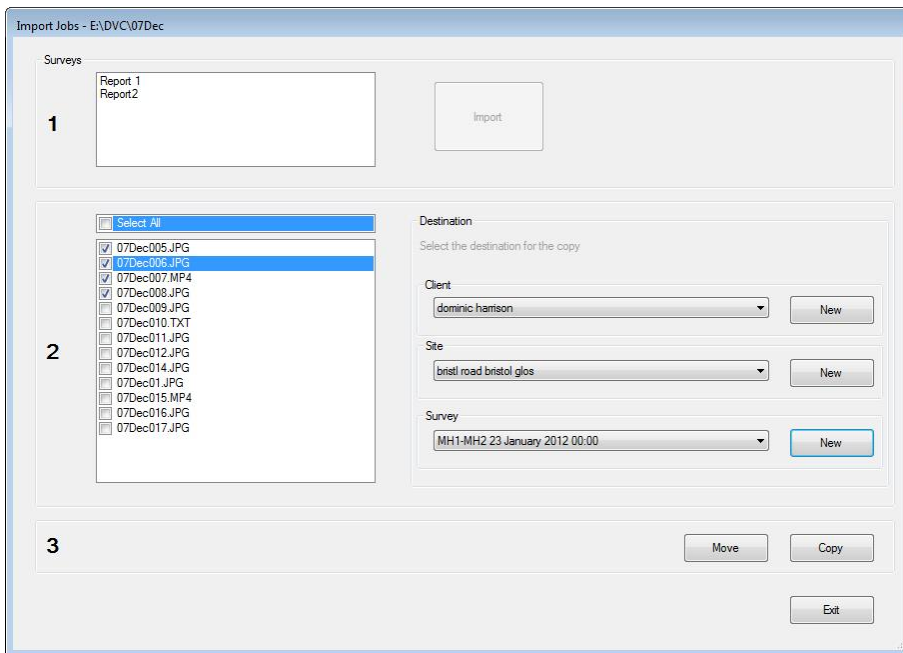

Figure 3.23 Import Survey Files Screen – Selecting the files to copy or move
9. Use the files browser in the Import Survey Files screen to select the survey files you wish to import into FSM (see Figure 3.23). You can use **Select All** to select all files or you can manually select individual files.
11. Press **Move** or **Copy** (Figure 3.23) to import the selected files into FSM. The files will be imported into the relevant subfolder in the FSM Jobs folder.